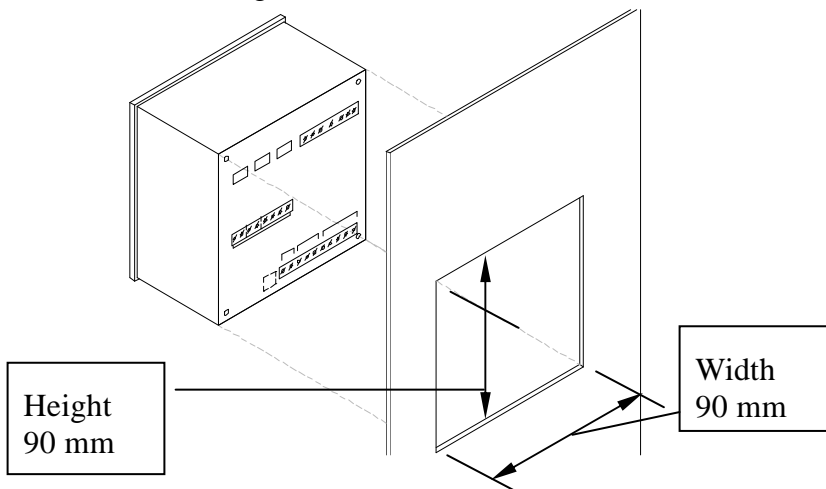

Figure 2-1. **Panel Cutout**
1. Choose a suitable location, and prepare a rectangular hole according to the dimensions shown in Figure 2.1